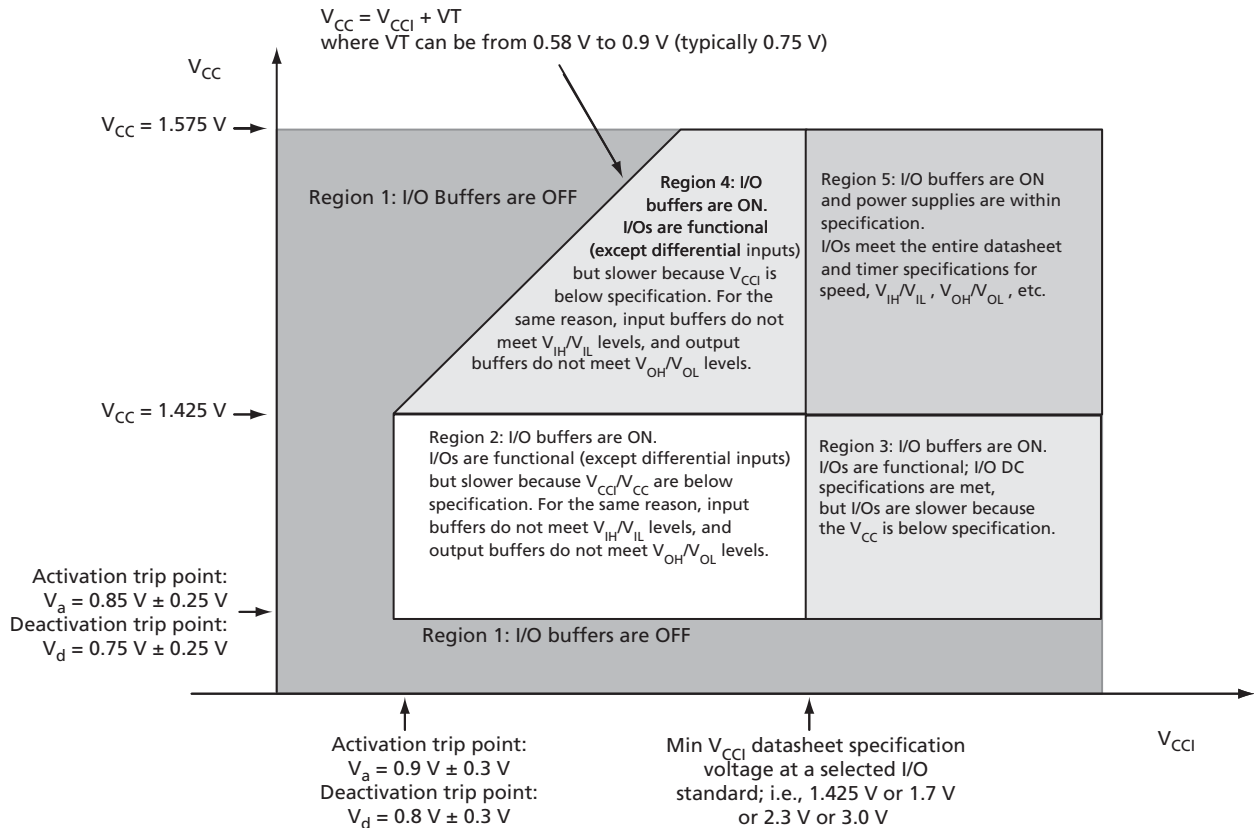
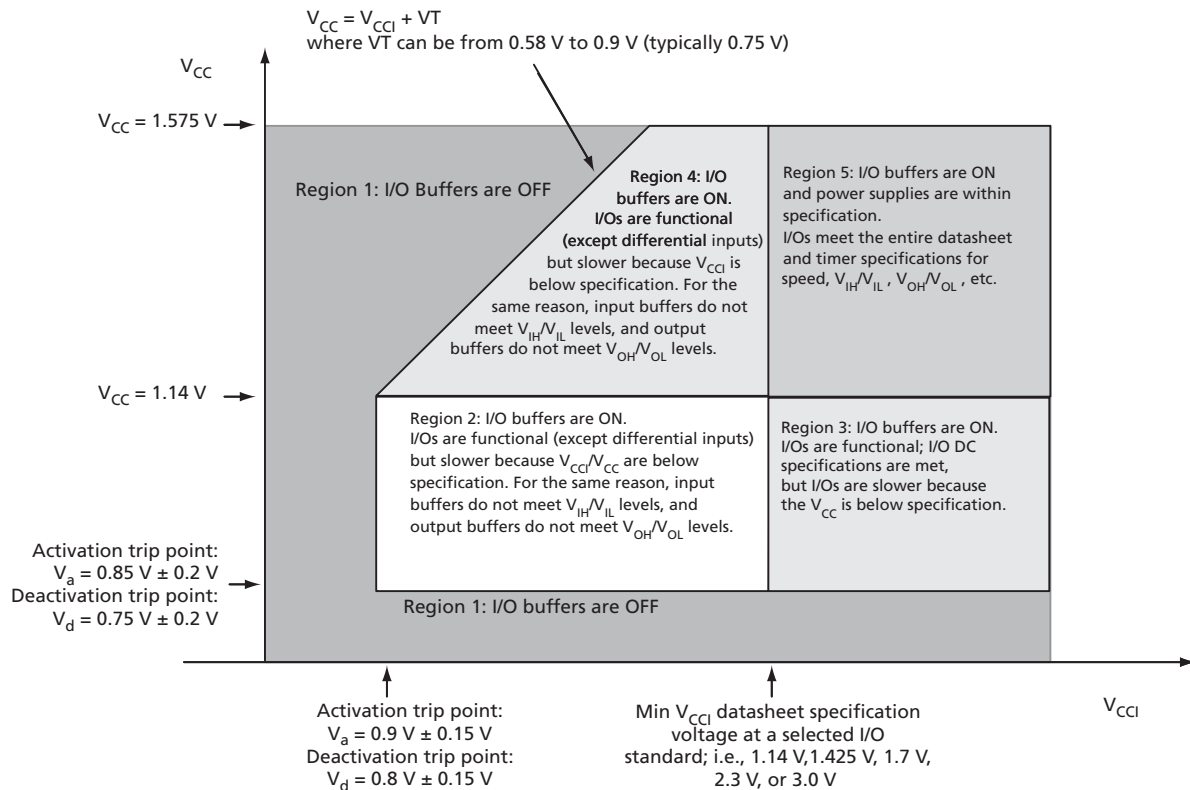

Figure 2-1 • V5 Devices – I/O State as a Function of  $V_{CC1}$  and  $V_{CC}$  Voltage Levels
Figure 2-2 • V2 Devices – I/O State as a Function of  $V_{CCI}$  and  $V_{CC}$  Voltage Levels
Sophisticated power-up management circuitry is designed into every IGLOO device. These circuits ensure easy transition from the powered-off state to the powered-up state of the device. The many different supplies can power up in any sequence with minimized current spikes or surges. In addition, the I/O will be in a known state through the power-up sequence. The basic principle is shown in Figure 2-1 on page 2-4 and Figure 2-2 on page 2-5.
1.  $V_{CC}$  and  $V_{CCI}$  are above the minimum specified trip points (Figure 2-1 on page 2-4 and Figure 2-2 on page 2-5).
Actel recommends using monotonic power supplies or voltage regulators to ensure proper power-up behavior. Power ramp-up should be monotonic at least until  $V_{CC}$  and  $V_{CCPLX}$  exceed brownout activation levels (see Figure 2-1 and Figure 2-2 on page 2-5 for more details).